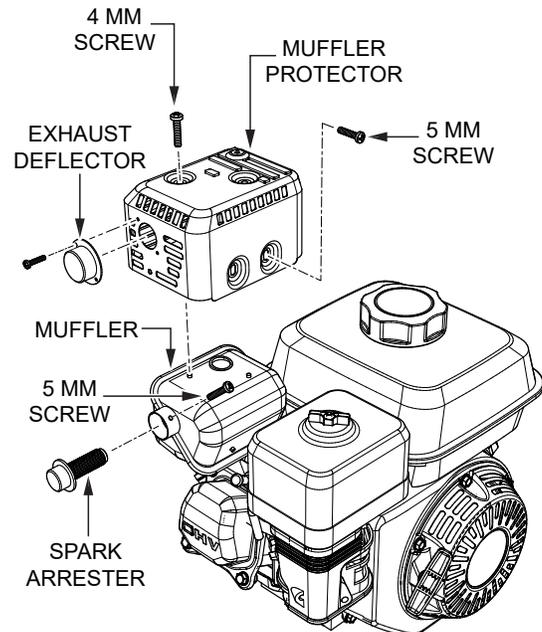

Figure 30. Spark Arrester
1. Remove the three 4 mm screws securing the exhaust deflector (Figure 30) to the muffler protector, then remove the exhaust deflector.
2. Remove the four 5 mm screws from the muffler protector (Figure 30), then remove the muffler protector.